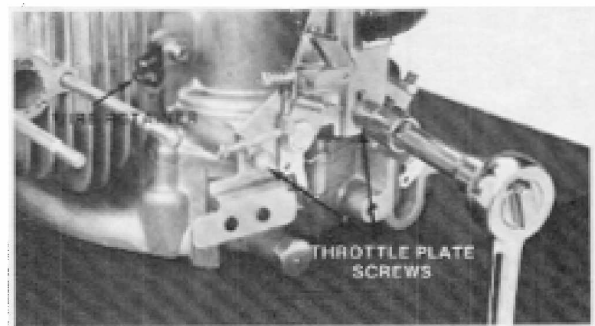

Figure 3-20
5. If removal of the throttle bracket is necessary, remove the two fasteners shown in Fig. 3-20.